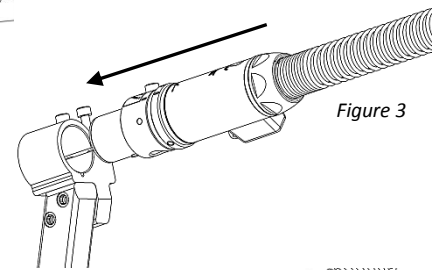

Figure 3
6. Line up the key of the new TOUGH GUN CA3 MIG Gun with the keyway in the gun mount and insert the new uncable connector and uncable into the gun mount as shown in *Figure 3*.